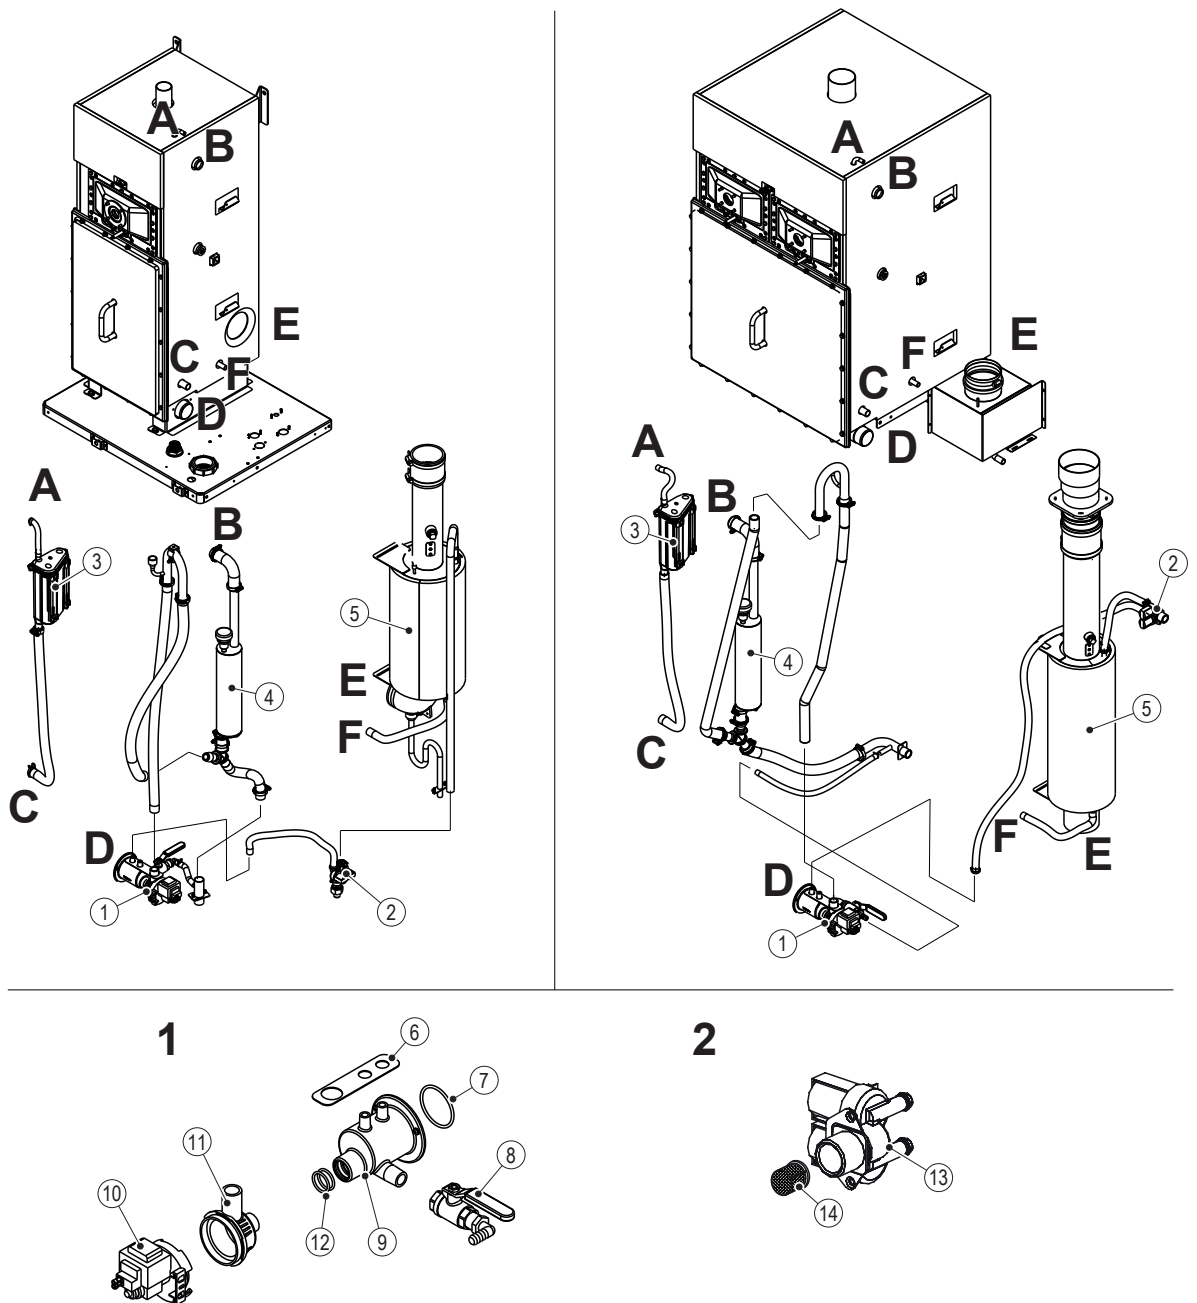

Fig. 15: Cleaning Hoses, Dual Fill Valves and Drain Pump (A-G are connection points to humidifier)
5. Reconnect the water hoses. You may also refer to Fig. 15 on page 61.
7. Reassemble the level control unit, ensuring the orientation of the floats have been maintained. Reinstall it to the bracket on the humidifier and reconnect hoses. Refer to Fig. 15 on page 61.
Clean the fill and drain hoses, the dual fill valves, and the drain pump as follows. Refer to Fig. 15 on page 61.